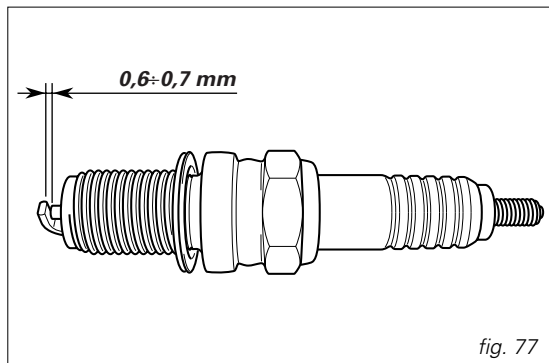

fig. 77
**Cleaning and replacing the spark plugs** (fig. 77)